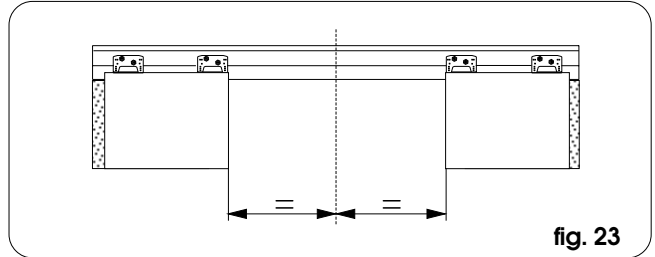

fig. 23
- ➔ Locate the open leaves at an equal distance from the mid-point of the head profile (which is also the closing edge) as shown in fig.23.